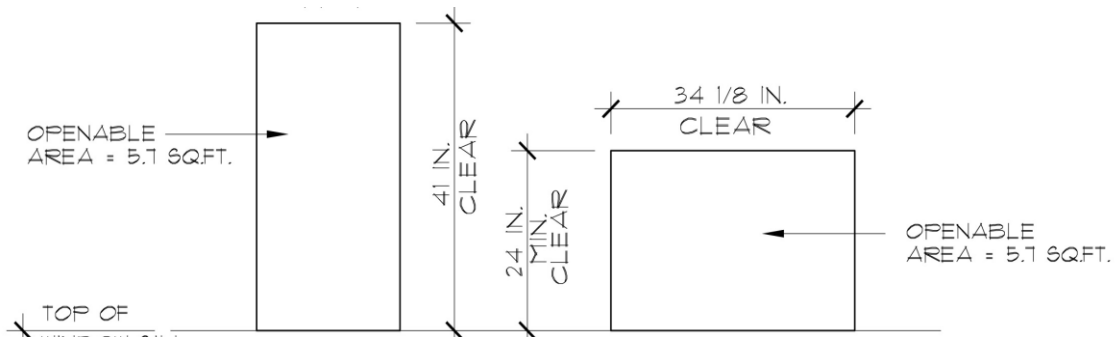

Figure 1
1. If a bedroom window is to be changed in size, type and / or location, then the replacement window shall comply with the emergency escape and rescue window dimensions. See Figure 1 below.
4. In order to meet the required 5.0 or 5.7 square feet clear window area, either the width or height, or both, must exceed the minimum dimension. See Figure 1 below.